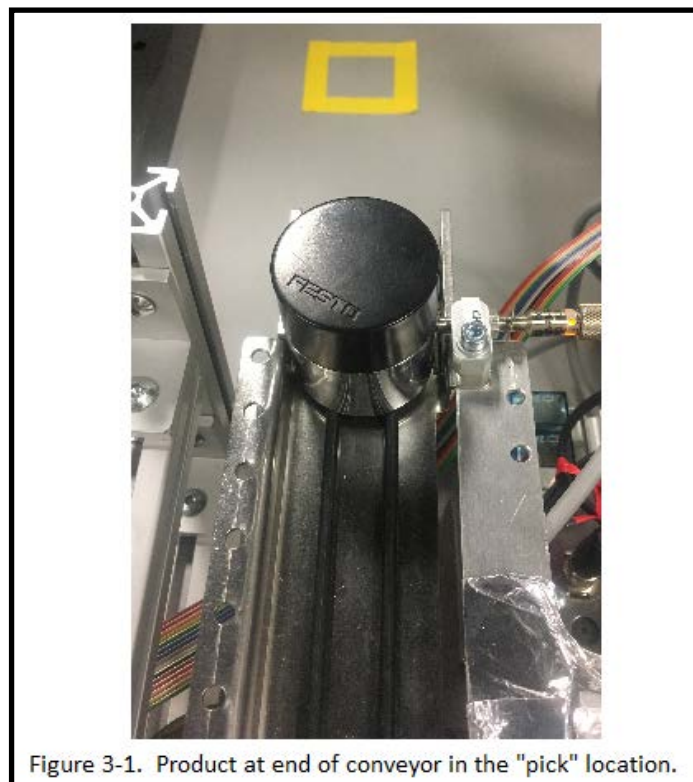

Figure 3-1. Product at end of conveyor in the "pick" location.
- I. Product comes onto an outfeed conveyor and stops at the end of the conveyor similar to the one shown in Figure 3-1. Using the RVP to control the robot arm, learners must manually operate the robot to maneuver from the **Home** position to the product and then successfully remove the product from the conveyor, while meeting the following conditions. Note: The Home position is a preprogrammed position that is the starting point for the robot. The robot completes a Hard Home when learners enter the RVP system and this is the starting position.